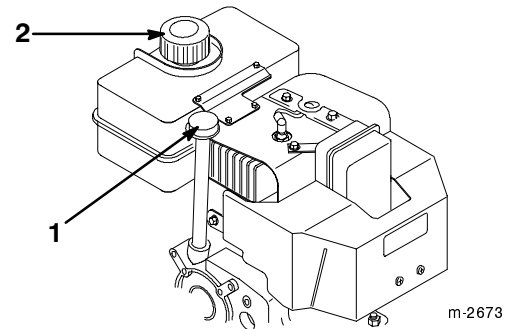

Figure 16
- Clean the area around the dipstick (Fig. 16).
- Remove the dipstick from the crankcase (Fig. 16).
1. Clean the area around the fuel tank cap (Fig. 16).